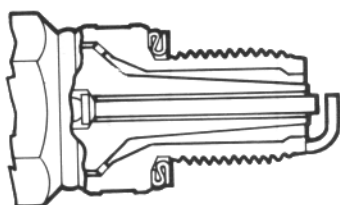

Fig. 1 'Hot' plug
- A plug with a high heat rating has a greater thermal retention capacity and conducts less heat away from the combustion chamber. This type is normally used on low-speed engines operating at relatively low combustion temperatures. Plugs of this type are also known as 'hot' plugs and are provided with a long insulator nose as shown in Fig. 1.